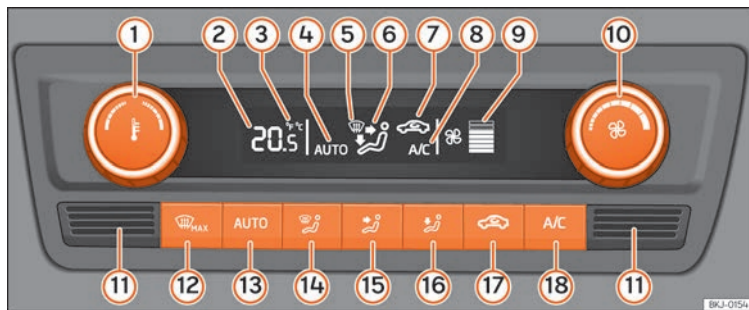

Fig. 170 Climatronic: controls.
- **A/C** » Fig. 170 (18) turned on.
- Turn control (10) to the left until the segments of column (9) » Fig. 170 switch off.
- Press the button **AUTO** (13) »» Fig. 170.
Keep the **AUTO** and **A/C** »» Fig. 170 buttons held down for **2 seconds** at the same time. The data is displayed on the screen in the units required.
- The interior temperature sensor (11) »» Fig. 170 is at the bottom. Do not cover it with stickers or the like, as this could have a negative effect on Climatronic operations.
- Press the button **AUTO** (13) »» Fig. 170, and **AUTO** is displayed on the screen.
- When you switch on the ignition, control (1) »» Fig. 170 can be used to set the required interior temperature.
- Press the button (17) »» Fig. 170 and the symbol is displayed on the screen.
- Press the button (17) »» Fig. 170 and the symbol disappears from the screen.
- Turn control (10) » » Fig. 170 counter-clockwise (to lower the speed) or clockwise (to increase the speed).
- Press the button  MAX (12) » » Fig. 170.
- Press the button  MAX (12) » » Fig. 170 several times or press the **AUTO** button.